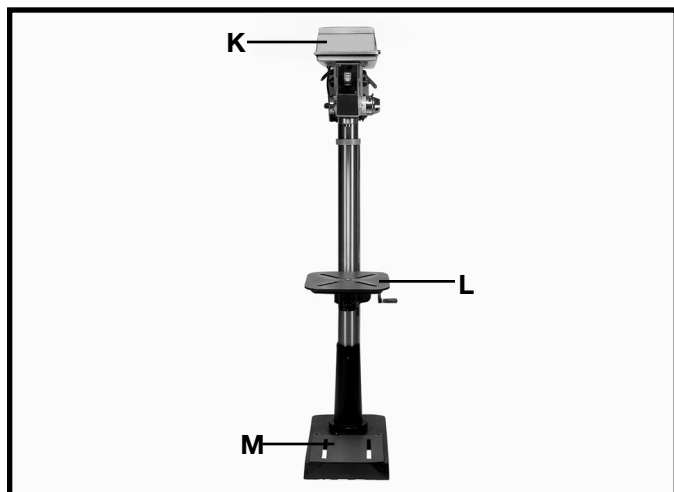

Fig. 12
11. Place the drill press head (K) Fig. 11, onto the column as far as it will go. Align head (K) Fig. 12, with table (L) Fig. 12, and base (M) Fig. 12, and tighten the two head locking screws (N) Fig. 11 with the 5mm wrench supplied.